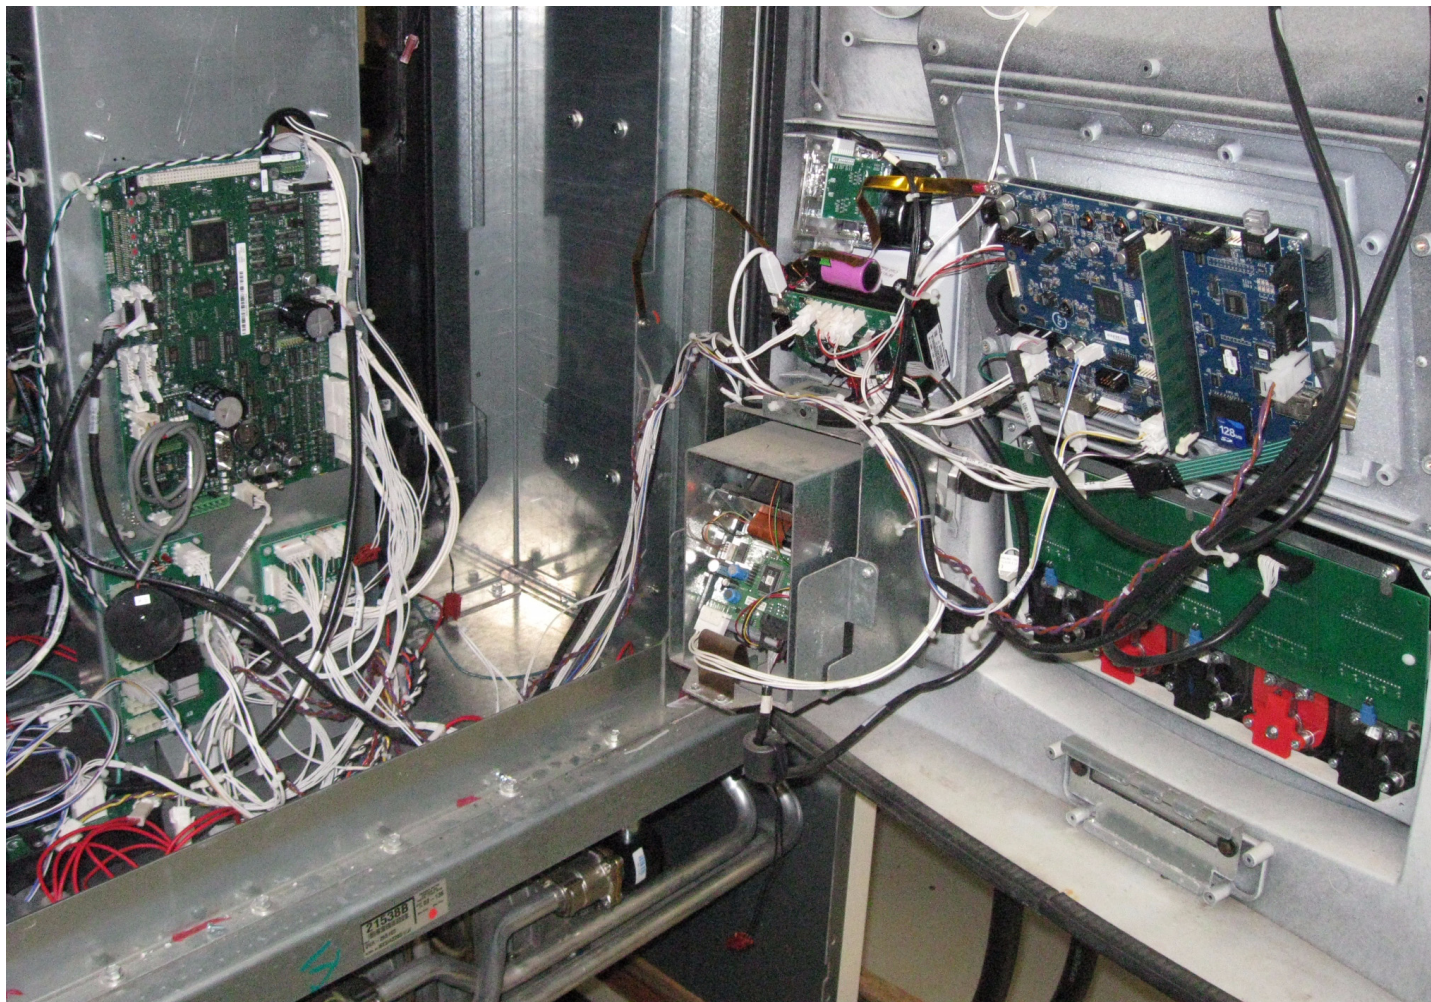

FIGURE B1
SEE FIGURE B1 AND B2
6. Install new (item 2) Gasket 888341-005 around the window.
8. Install new (item 4) Gasket 887435-001 and install card reader onto the new (item 1) SPM panel using 4 (item 3) Screws 6005901.
9. Install the SPM panel onto the dispenser bezel using 4 (item 3) Screws.
11. Connect the following cables, referring to Figures B1 and B2:
- B) New (item 9) USB Cable 892139-001 to the ix board USB 1 connector and to the SPM USB connector.
- C) New (item 7) DC Power Cable 892120-001:
- D) Card Reader Cable (item 8) 850350-002 (with ground) to the card reader and to the SPM board J10.
- E) Connect the ground strap (gold-colored) that is on the SPM over to chassis and secure with #10 Screw (item 5) 6001105 and # Nut (item 6) 6019401. Be sure the ground strap does not get pinched in the door when closing.
- 14. Connect the following cables, referring to Figures B1 and B2:
- C) New (item 9) USB Cable 892139-001 to the ix board USB 1 connector and to the SPM USB connector.
- D) New (item 7) DC Power Cable 892120-001:
- E) Card Reader Cable (item 8) 850350-002, as required, to the card reader and to the SPM board J10.
- F) Softkey cable (item 10) 892141-001 to SPM board J6 connector and to left and right softkeys.